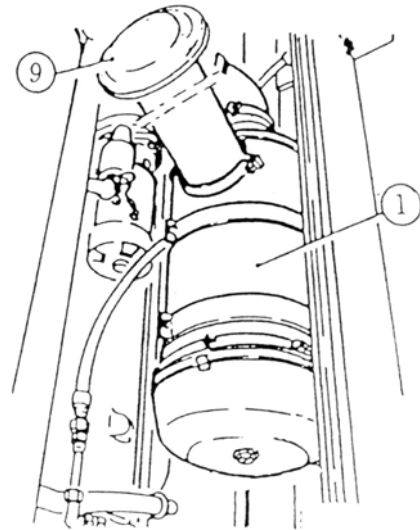

Fig.41
8.5.1 Air filter of the engine (Fig. 41)